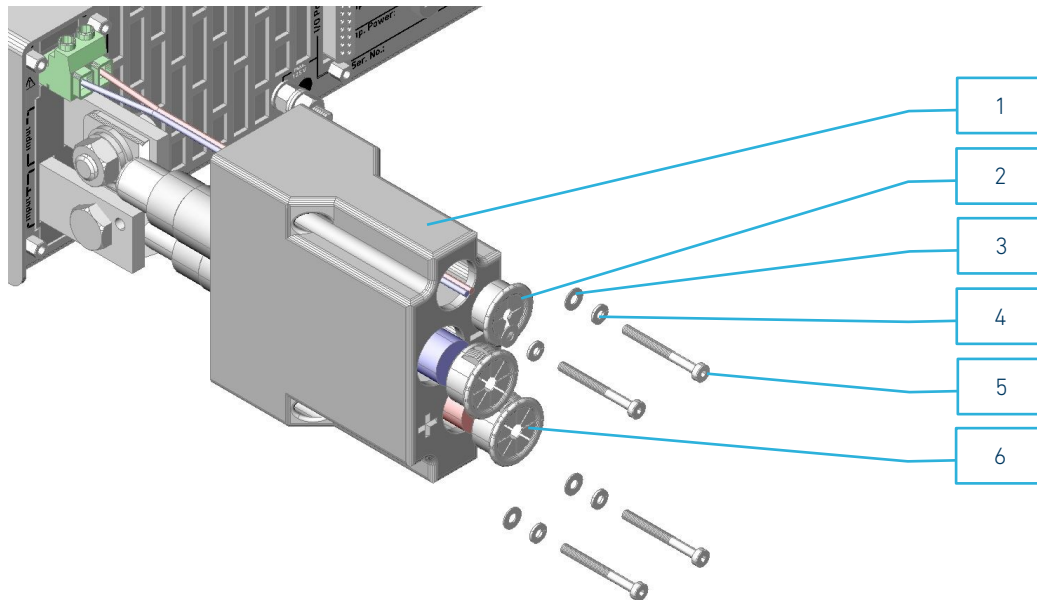

Figure 2.12: components and assembly of SAB-HES-2CU safety cover
The following **numbers** refer to Figure 2.12.
2. Connect the load cables to the copper bars as shown in Figure 2.12 using the screws and washers supplied, so that they run straight away from the bars.
- Follow the screw and washer arrangement shown in Figure 2.12 to ensure the appropriate safety distances!
4. Insert the loose ends of the load cables as shown in Figure 2.12 first through the corresponding openings in the housing **1** and then through the cable grommets **6**. Ensure correct polarity!